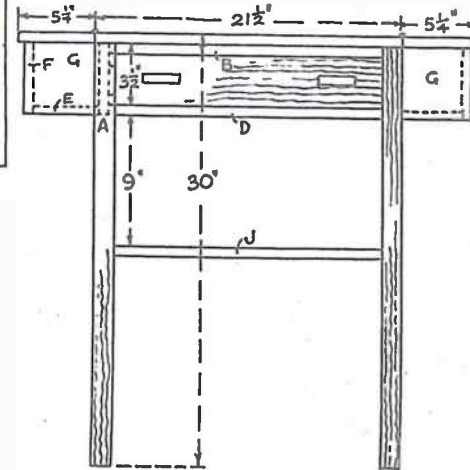
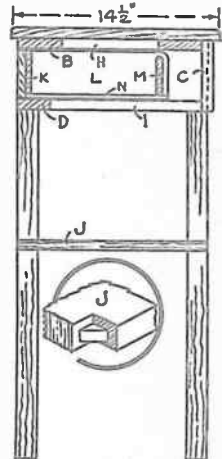
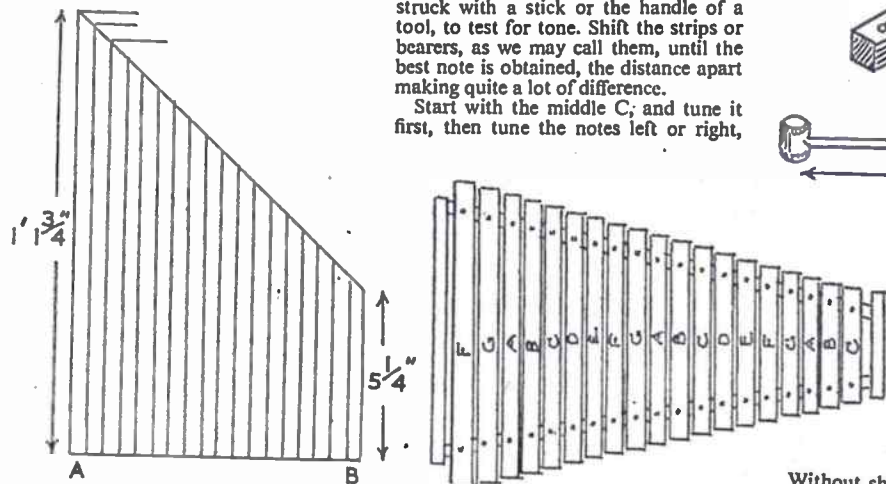

Fig. 2
Fig. 3
Fig. 2
The main measurements of the table are given in Figs. 2 and 3. Fig. 3 is a cross-section and helps to show the general construction. The legs may be plain $1\frac{1}{2}$ ins. square all the way up, or they may be shaped from just under the shelf to floor level by means of chamfering, or rounding off the edges. The legs must be grooved to take the rails (A) and open-mortised at the top to take rails (B). Small mortises are also cut in the inner sides of the legs to receive the front rail (D). To the side rails will be fitted the drawer runners (I), and the guides which go in between the legs. Both these units are shown in the detail Figs. 3 and 4.
The general arrangement of the leg tenons, etc., and guides (H) are given in Figs. 3 and 5. The back rail (C) is grooved to fit the legs, the latter being also sunk slightly to form the joint. Glue and screws form the fixing here.
A useful shelf which will greatly help to stiffen the legs is shown as (J) and the joint adopted to connect it with the legs is shown in the circled diagram in Fig. 3. The front of this shelf may be shaped to add character, or, of course, it may be oblong in shape.
Lay the notes on the bearers in their correct order, as in plan view, Fig. 2,
Without shifting the notes or bearers out of their respective positions, nail strips of wood across the bearers at their ends to fix them permanently apart, as in Fig. 2. Remove the notes and bore the pin holes in them on the pencilled marks. Holes $\frac{1}{2}$ in. will do here. On each bearer lay a length of thick string, exactly along the centre. Now replace the notes, one at a time, and using $\frac{1}{2}$ in. wire nails, drive these through the pin holes into the bearers beneath. The pins should enter through the string, as in detail (A) in Fig. 3. Each note should be moderately loose on its pins,